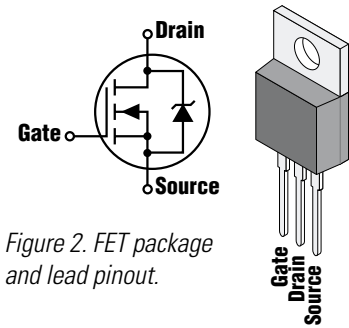

Figure 2. FET package and lead pinout.
- Replacement FETs (Motorola MTP52N06V or QSC-authorized substitute; QSC part # 490F-Z440-5); four per amplifier (Figure 2)
4. Use the heat sink as ground reference. On both channels, check the positive and negative stepped rail voltages on both channels by measuring the DC voltage at the emitter resistors (Figure 2).